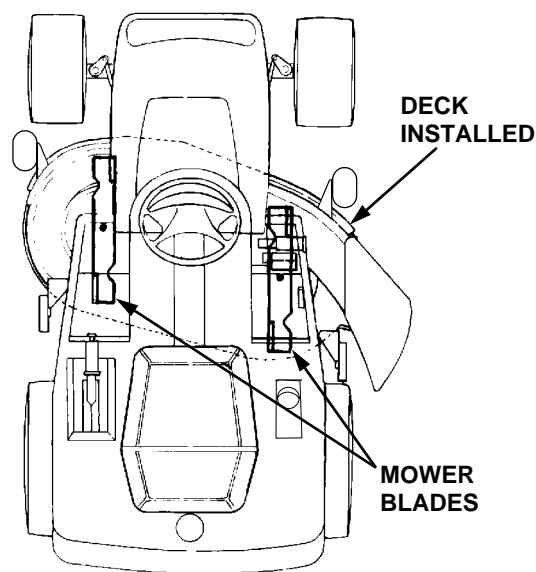

Figure 36
2. Position the mower blades so the ends of each blade point to the front and the rear of the tractor (See Figure 36).